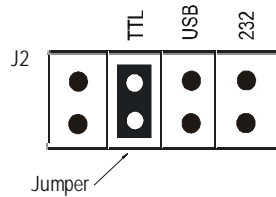

Figure 5: Jumper 2 position for a TTL connection
3. Install jumper J2 in the position for a TTL connection, as shown in Figure 5.